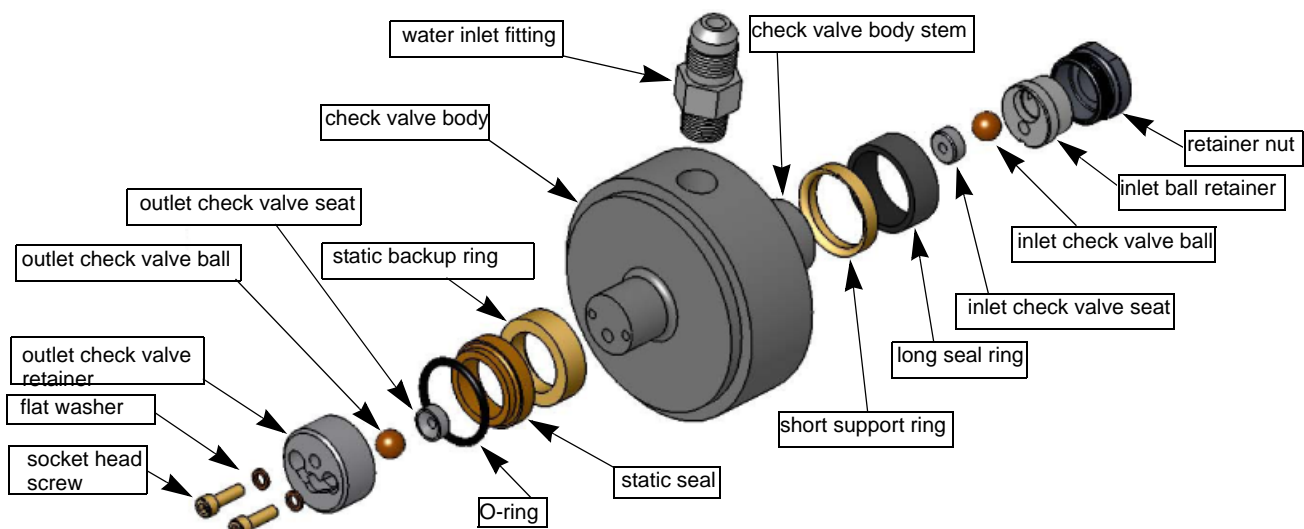

Figure 5-19: Check Valve Assembly Components
2. Referring to Figure 5-19, remove the Inlet Ball Retainer, the Inlet Check Valve Ball, and the Check Valve Seat. A pair of needle nose pliers can be helpful when removing the Inlet Ball Retainer.